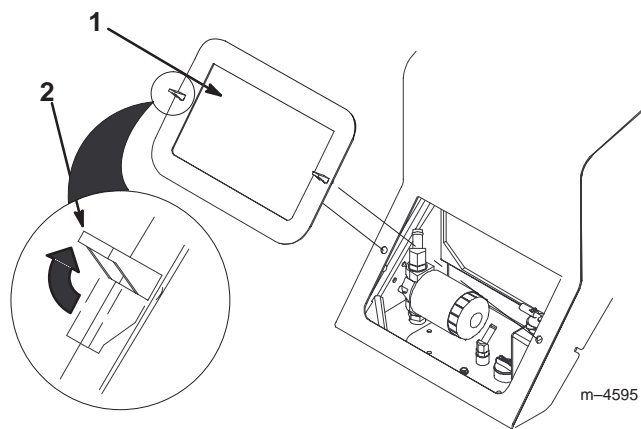

Figure 21
3. Release the two locking tabs (Fig. 21).
4. Pull the cover off of the traction unit (Fig. 21).